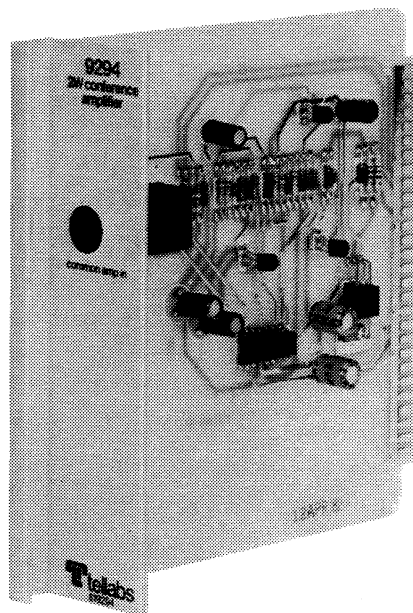

figure 1. 9294 2Wire Conference Amplifier module
1.01 The Tellabs 9294 2Wire Conference Amplifier module (figure 1) is designed specifically for use in the Tellabs 292R Conference/Alerting System. *The 292R System is a 2wire multistation ring-down conference system designed for emergency reporting and business conference applications. The System provides simultaneous conference access to up to 60 local stations either from a dedicated master telephone or from any local telephone via a listed directory number.* In the 292R System, the 9294 serves as a summing amplifier for receive signals and also provides the audio references and audio grounds to the System's audio circuits.